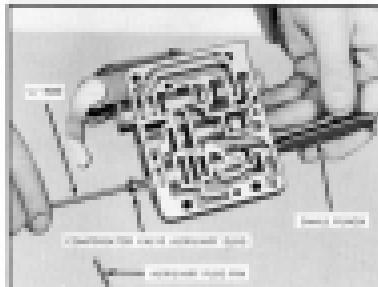

Fig. 497. Removing Auxiliary Plug
17. Remove compensator valve auxiliary plug by inserting a $1/8''$ punch in hole in plug and using another small punch to push valve from body. (Fig. 497)